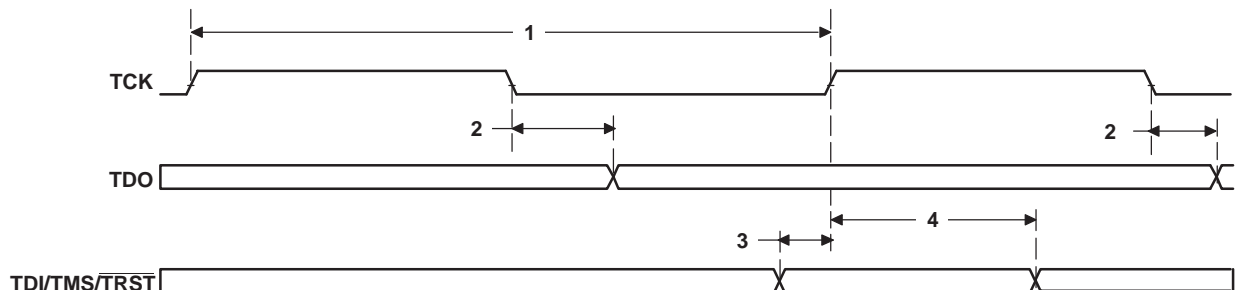

Figure 5-50. JTAG Test Port Timing
5.16.1 Timing Requirements for JTAG Test Port (see Figure 5-50)